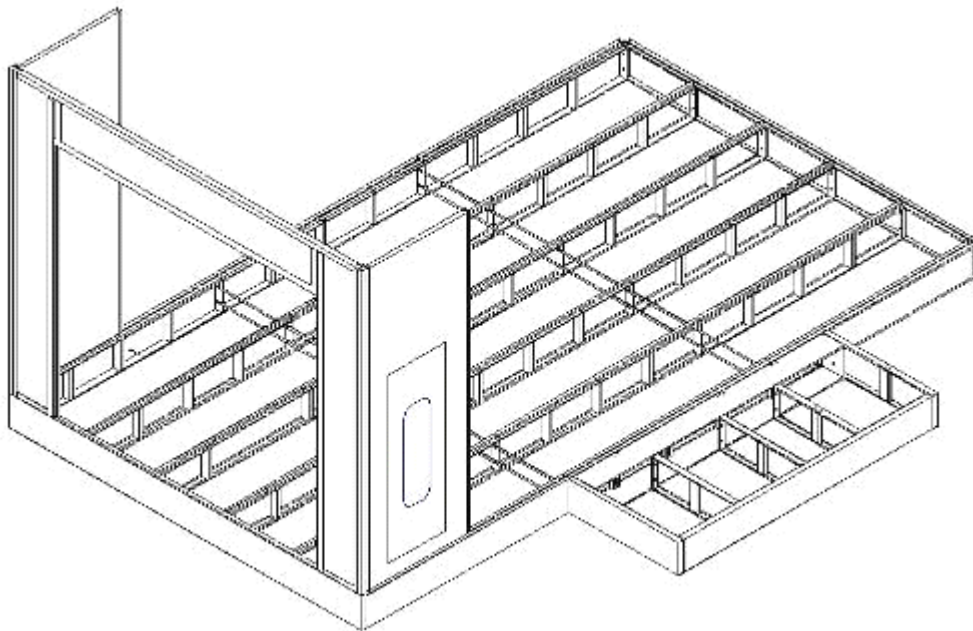

Fig. 3.7
3) Take the Front door frame on to the front panel of the basement by two workers, then one worker holds the door frame and another worker takes the safe door and one wall panel on another side, connect them to the door frame with nails. At last take four bolt M8*20 to connect the bottom of the door frame and the front panel of the basement. shown in Fig.3.7. So the door frame can be stand steadily.